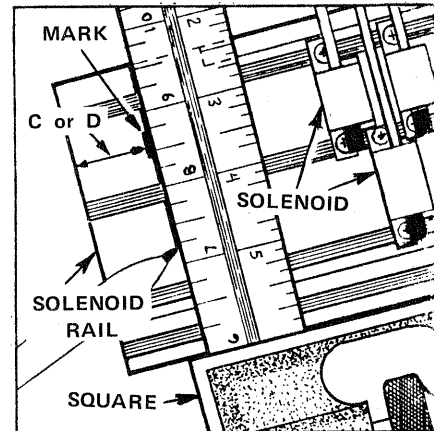

FIGURE 5-6 Draw a line through the mark.
A. At the LEFT end of the Solenoid Rail measure in from the end of the rail a distance equal to the measurement written on Line C, STEP 1-24 (for Drop Actions), or Line N, STEP 2-17 (for Direct Blow Actions), and mark the rail. See FIGURE 5-6 for the location of the mark.
B. Use a square and a pencil or felt pen to draw a line parallel to the end of the rail and through the mark as shown in FIGURE 5-6. If there is a measurement written on Line D, STEP 1-25 (for Drop Actions), or on Line O, STEP 2-18 (for Direct Blow Actions), proceed to point C below. If there is no measurement written on the line, proceed to the next Step.